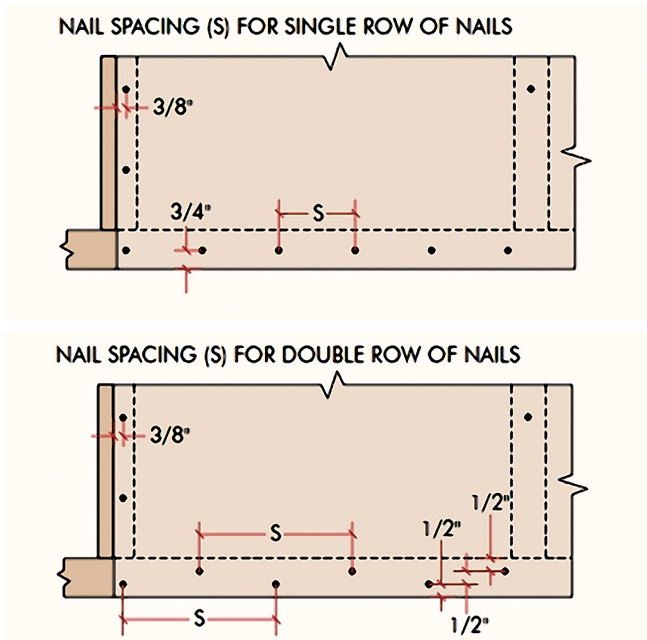
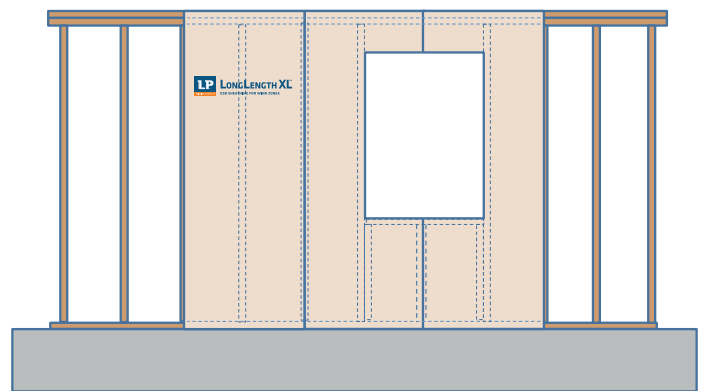

Figure 6: Fastening Edges and Ends
Figure 7: Proper Cut Around Windows and Doors
- Fasteners shall be placed 3/8" away from panel edges when fastening along the long axis (see Figure 6).
- c. Stagger the fasteners in one row from those in the adjacent row by 50% of the spacing (S) used
- For added wall performance, cut full panels around window and door openings instead of using small pieces to sheath the perimeter (see Figure 7). Builders must comply with local building codes regarding the use of anchors and ties at window and door openings.